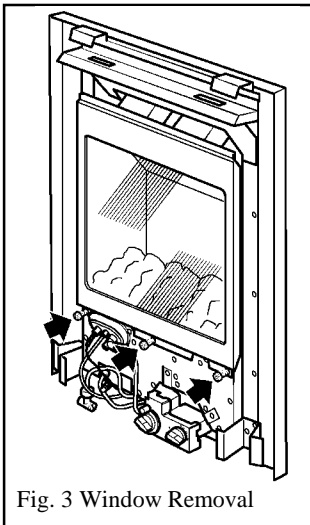

Fig. 3 Window Removal
- Unscrew and remove the three spring loaded window fixing screws and washers from the base of the window frame. See figure 3. Keep the screws and washers in a safe place.